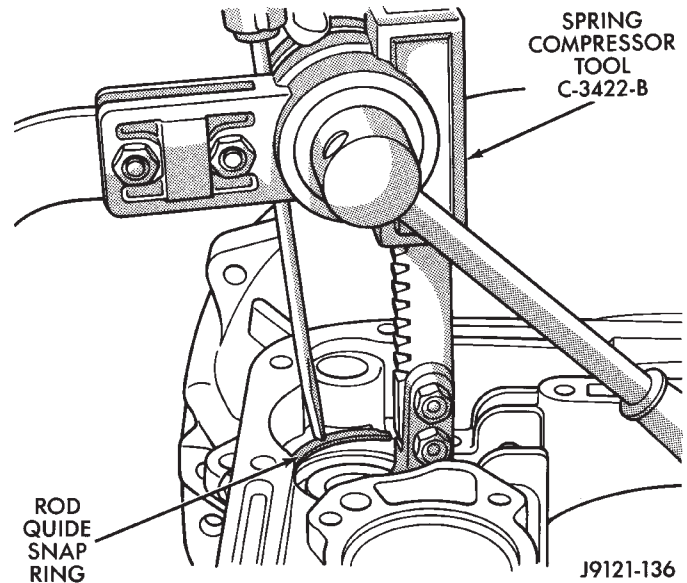

Fig. 155 Compressing Front/Rear Servo Springs
(3) Compress front/rear servo springs with Valve Spring Compressor C-3422-B and install each servo snap ring (Fig. 155).